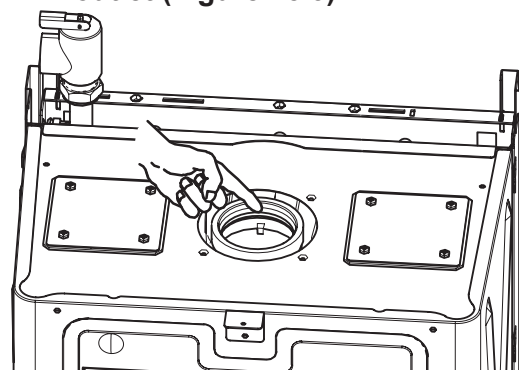

Figure 15.3
**Fill the built in condensate trap by removing the flue elbow and pouring a cupful of water into the flue outlet (Figure 15.3).**